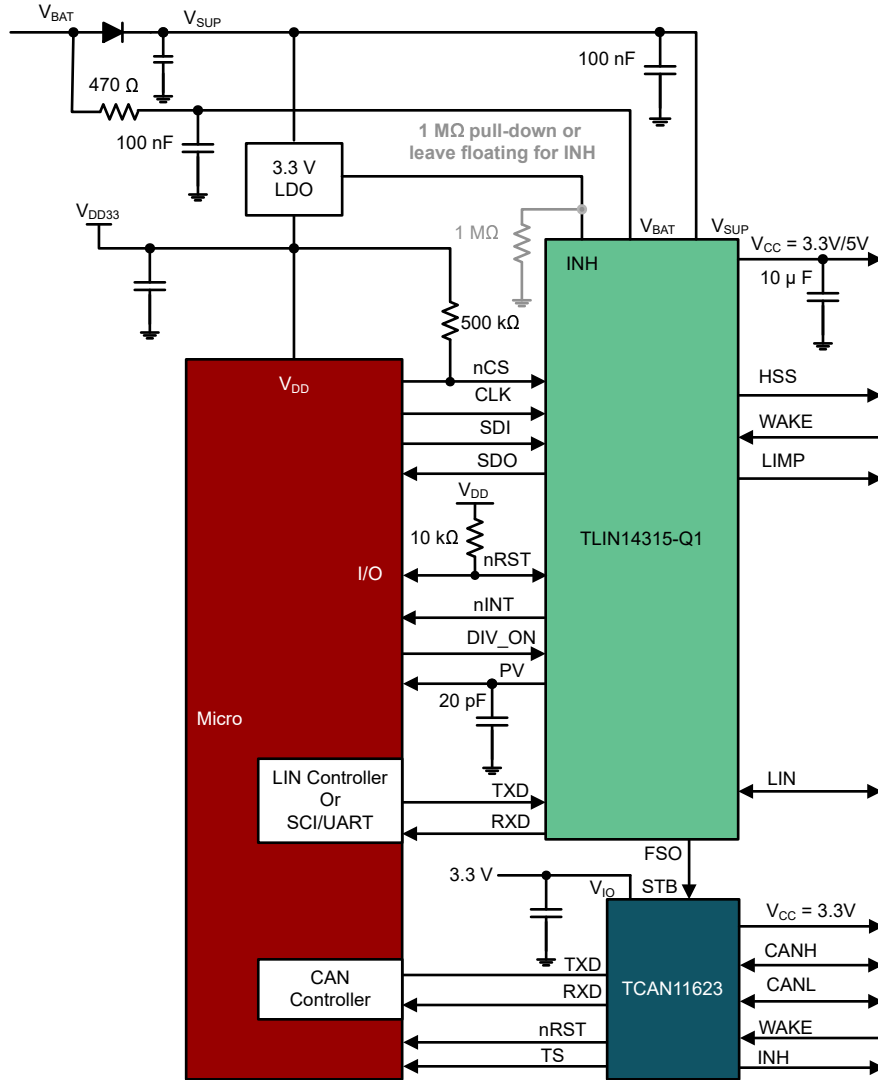

Figure 8-23. Channel Expansion: CAN SBC
- One LIN and one CAN FD transceiver with two LDO outputs by using a CAN FD SBC, see Figure 8-23